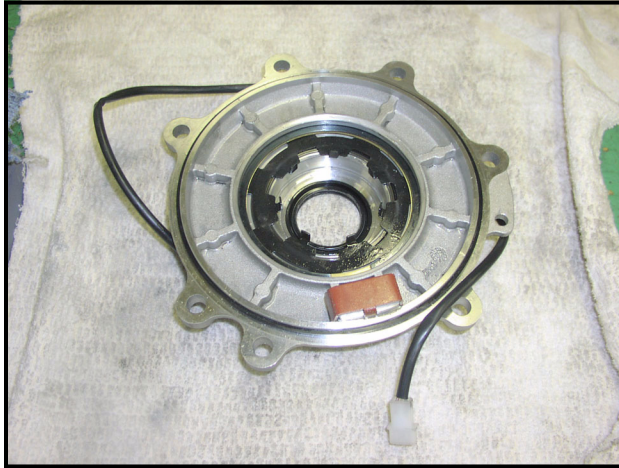

Figure 9-14 Output Hub and Bearing
1. Position a new coil and output cover on a clean solid surface and install the male hub and bearing into the bearing cavity by gently tapping the dowel pin end of the hub (Figure 9-14, Page 9-6).